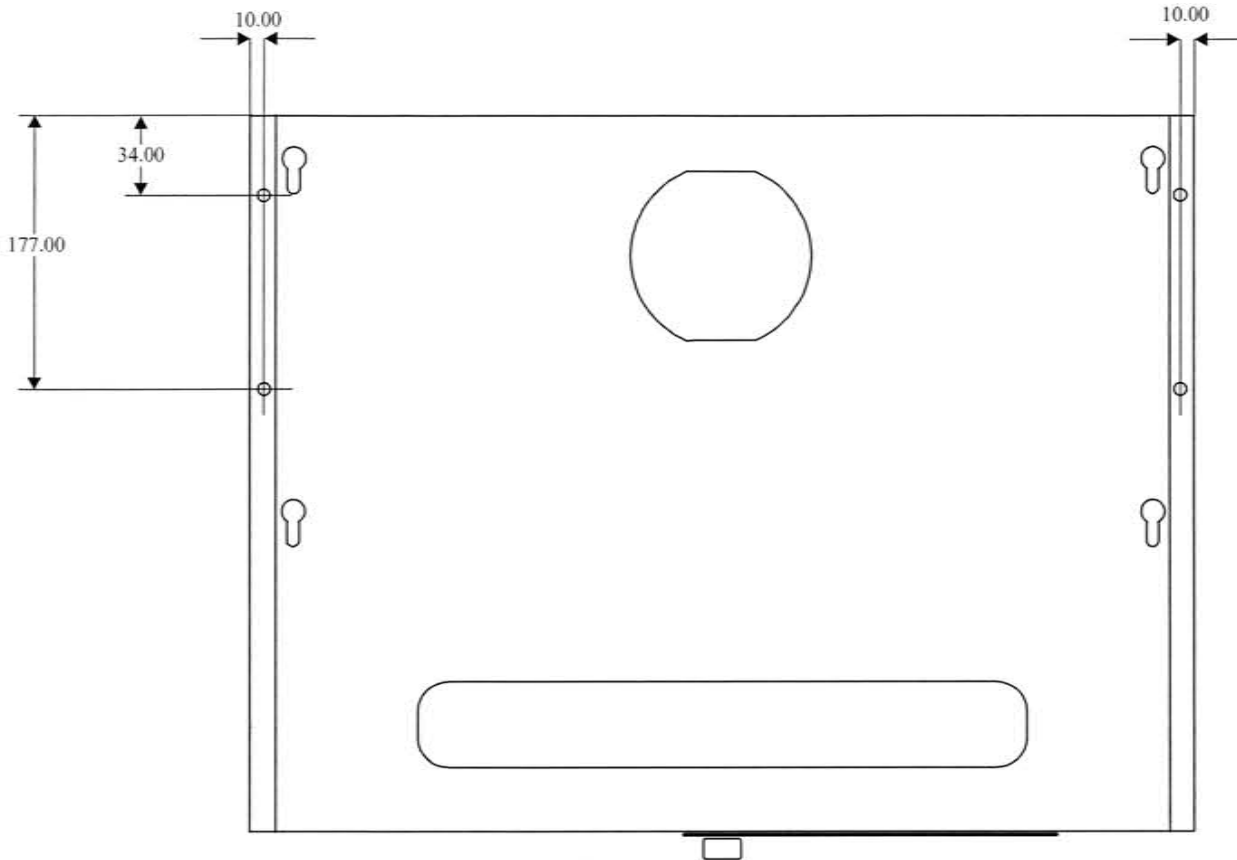

Fig. 3
- 2.7.6 Referring to Fig. 3, drill 4 x 2.9mm holes as marked and fit the FV15 cooker canopy to the base of the heat recovery unit, feeding the canopy electrical cable through the grommets in the heat recovery unit base and electrical panel and secure the canopy to the heat recovery unit at the positions shown, using 4 x self tapping screws included in the HR unit kit.